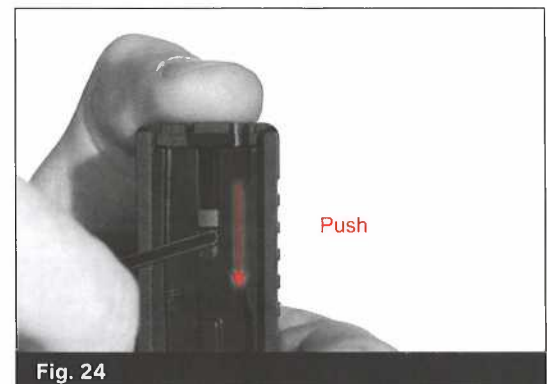

Fig. 24
- Place your thumb over the slide cover plate as you push downwards (toward the muzzle end) on the spacer sleeve. (Fig. 24/25)